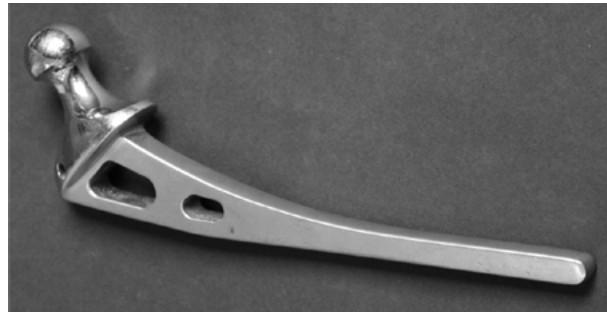

Fig. 5
- 16 You are making the part shown in **Fig. 5**.
- (a) To make a pattern for the mould that will be used for casting, you have decided to 3D print the part shown in **Fig. 5**.